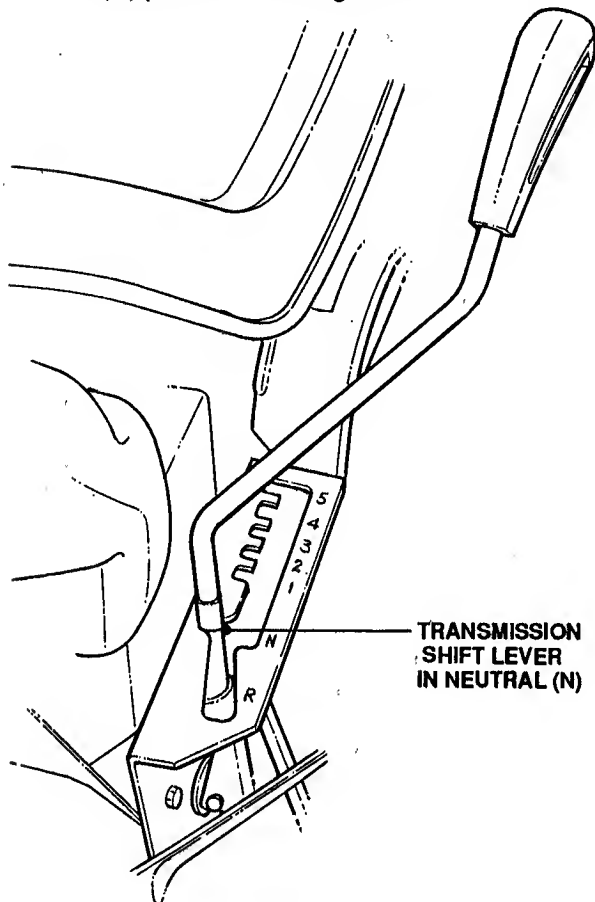

FIGURE 2.8
3. Move the transmission shift lever to the neutral (N) position. See Figure 2.8.